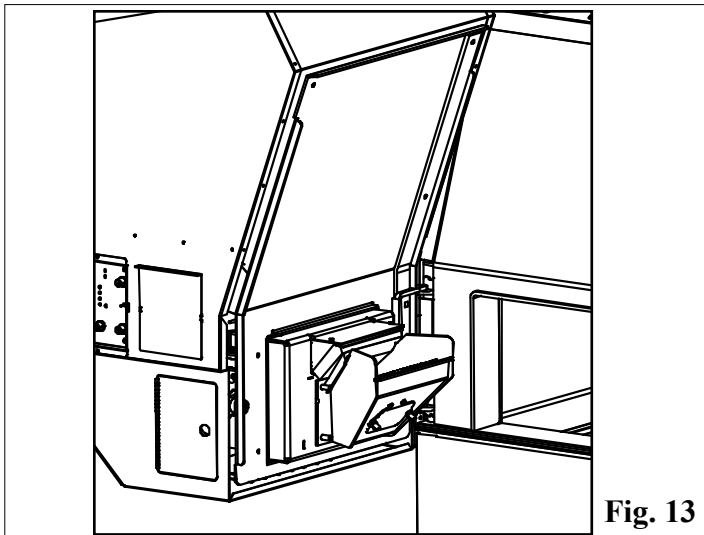

Fig. 13
7. Open hopper swing plate as shown in Fig. 13 (See "NOTE" on page 26.)